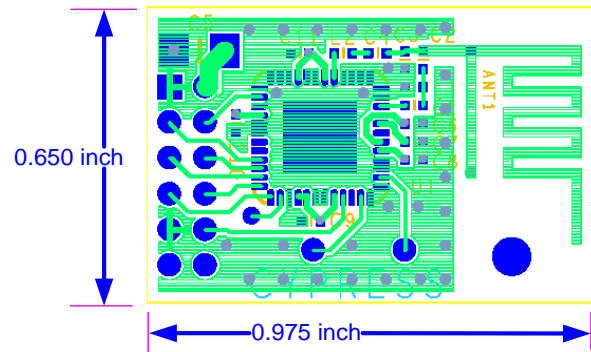
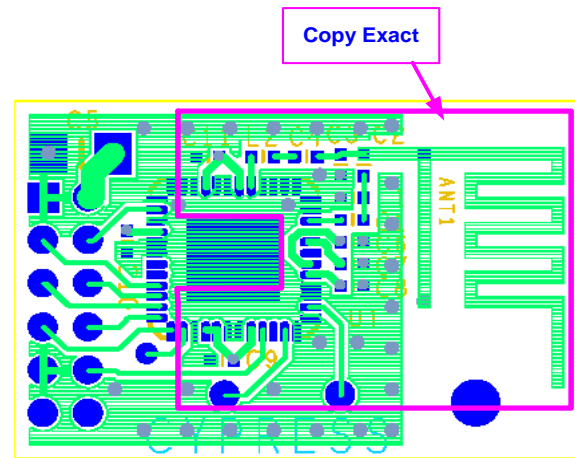
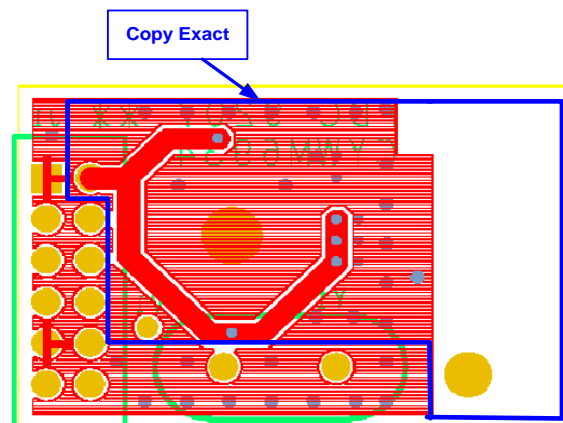

Figure 2. PDC-9207 Radio Module Dimensions
Figure 3. Example of PDC-9207 Top Side Trace Routing “Copy Exact” Layout Areas
Figure 4. Example of PDC-9207 Bottom Side Trace Routing “Copy Exact” Layout Areas
- Antenna matching components: The antenna matching components are C1, L1, C2, C3, L2 and C4. All of the matching components are made from the same package size to mount on 0402 pads. The placement of these elements and the antenna should match precisely to that shown on *Figure 3* and *Figure 6*.
The radio module dimensional details are given in *Figure 2*. *Figure 3* and *Figure 4* give details of the PDC-9207 layout areas to be copied exactly to achieve the specified RF performance. The component placement details are shown in *Figure 6* and *Figure 7*.
The antenna matching network element values are arrived by optimization simulations. The matching network connections and layout are shown in *Figure 5* and *Figure 4*.